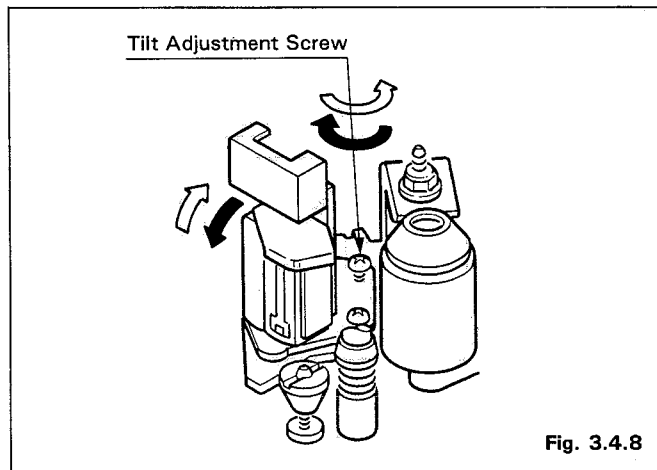

Fig. 3.4.8
- Confirm that the tape running between the guide roller and ACE head has no slack. If the tape has slack, take it up by turning the tilt adjustment screw (Refer to Fig. 3.4.8). Then, readjust GUIDE ROLLER HEIGHT (Refer to Section 5.2.3) and the X VALUE (Refer to Section 3.2.4 (4)).